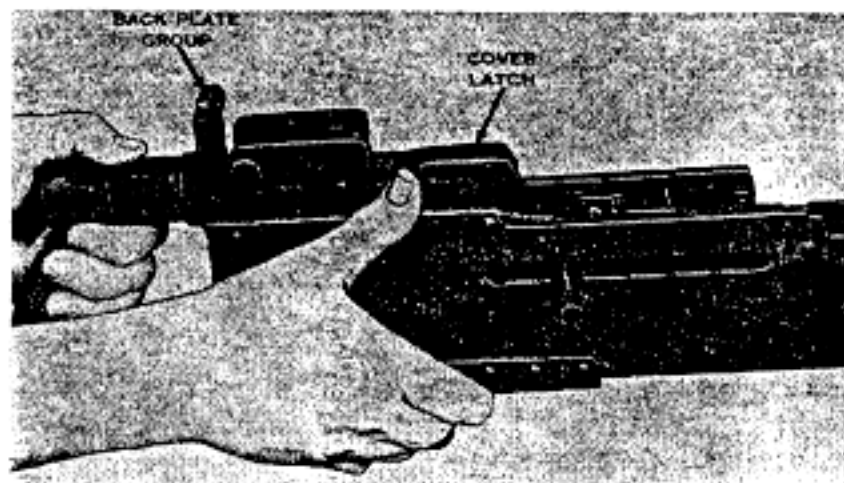

Figure 13. Pressing the cover latch forward and lifting up the backplate group.
- (3) In this position, the driving spring rod pin engages in its recess in the bolt and the driving spring is held compressed within the bolt.
- (4) Push the bolt handle forward 1 inch to clear the rear of the driving spring rod from the backplate. Push the cover latch forward and lift up on the backplate (fig. 13).